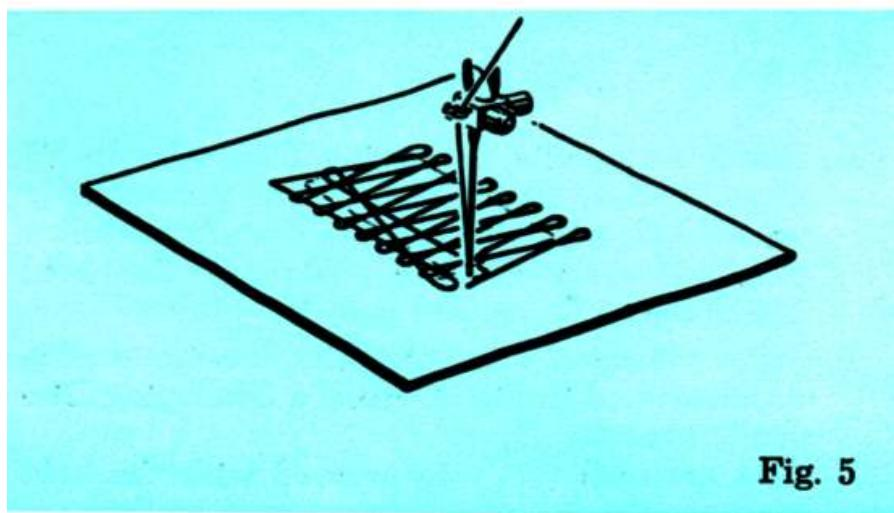

Fig. 5
7. Lower presser foot and proceed with the second series of automatic darning stitches until the hole is completely darned (Fig. 5).